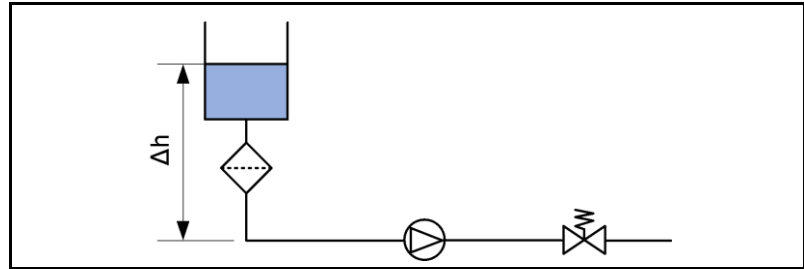

Fig. 21: Storage container above the pump.
In order to avoid uncontrolled escaping of the medium, a pressure control valve must be used on the pressure side (see Fig. 21).
- Set up the system as shown in Fig. 21